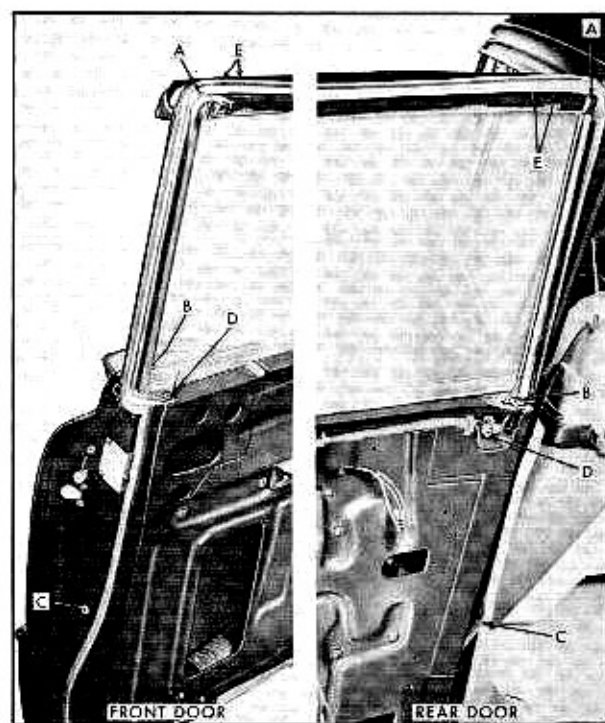

Fig. 3-6 Door Frame Attaching Screws (60S)
4. Lower window and remove four screws securing window to sash channel cam. Detach cam from window and lower window sufficiently to remove frame attaching screw "B". Fig. 3-6.